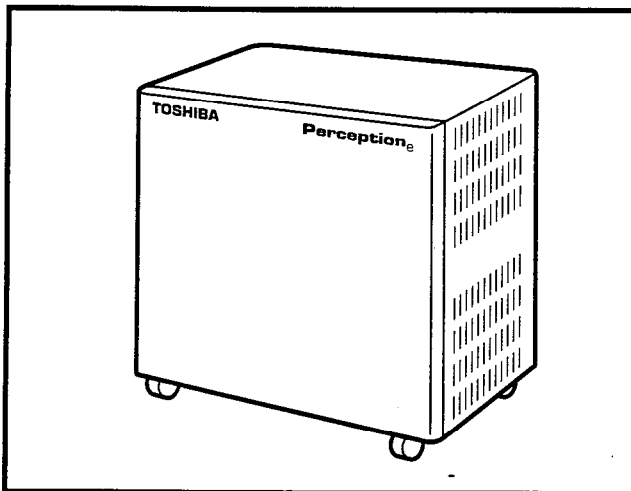

FIGURE 2-1—PERCEPTION_e BASIC CABINET
1.01 The basic equipment cabinet (NCEC-M) consists of a single, free-standing cabinet mounted on casters for easy movement. Once system installation has been completed and the cabinet has been positioned, the casters can be locked to prevent movement. The interior of the cabinet houses two shelves for printed circuit card installation. A separate area is provided for installation of the power supply and peak load battery. MDF connections are facilitated by amphenol connectors located on the rear of the cabinet (Figure 2-1).